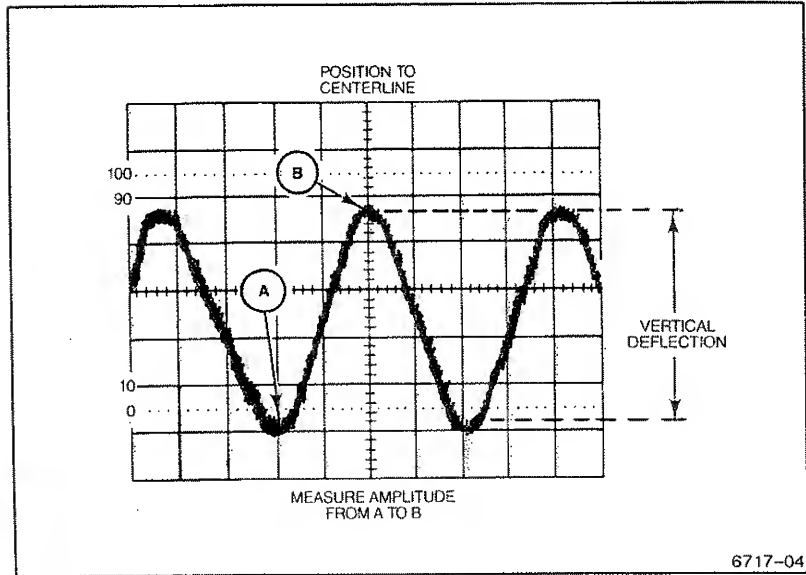

Figure 3-1. Measuring peak-to-peak voltage of a waveform.
5. Vertically position the display so that the negative peak of the waveform coincides with one of the horizontal graticule lines (see Figure 3-1, Point A).
6. Horizontally position the display so that one of the positive peaks coincides with the center vertical graticule line (Figure 3-1, Point B).
7. Measure the divisions of vertical deflection from peak-to-peak (Figure 3-1, Point A to Point B).
**EXAMPLE.** In Figure 3-1, the measured peak-to-peak vertical deflection is 4.4 divisions using a 10X attenuator probe with the VOLTS/DIV switch set to 5V (10X PROBE).